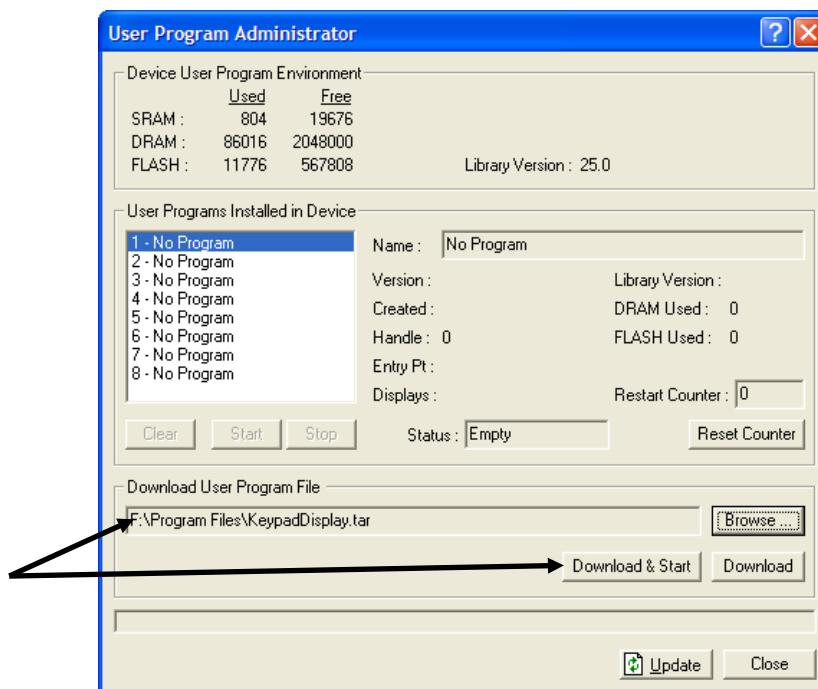

Figure 2-10. User Program Administrator
7. Click **Open** to select the program file. The User Program Administrator screen displays. As shown in *Figure 2-10*, note that the Download User Program File frame identifies the selected program and that the **Download & Start** button is active: